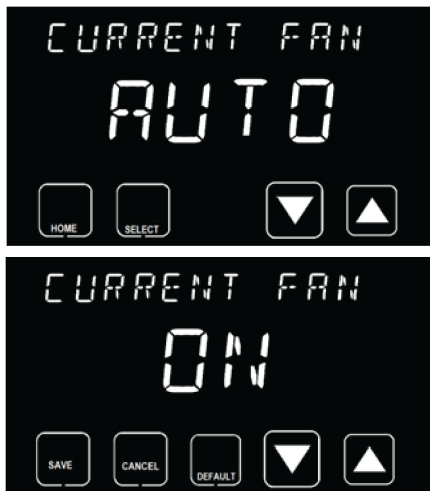

Fig. 28 — Activating the Up/Down Arrows
2. Press **SELECT** to activate the up and down arrows, Fig. 28.